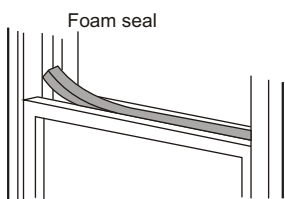

Fig.11
5. Cut the foam seal to an appropriate length and seal the open gap between the top window sash and outer window sash. Shown as in Fig.11.